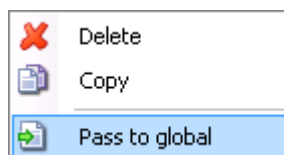

Figure 6-31. Standard context menu
5. In the **Standards** view, right-click the standard to be saved to the global database to open the context menu, see Figure 6-31.